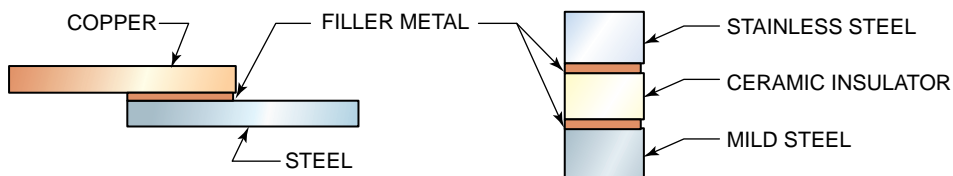

FIGURE 5-6 Dissimilar materials joined.
- Dissimilar materials can be joined—It is easy to join dissimilar metals, such as copper to steel, aluminum to brass, and cast iron to stainless steel, Figure 5-6. It is also possible to join non-metals to each other or nonmetals to metals. Ceramics are easily brazed to each other or to metals.